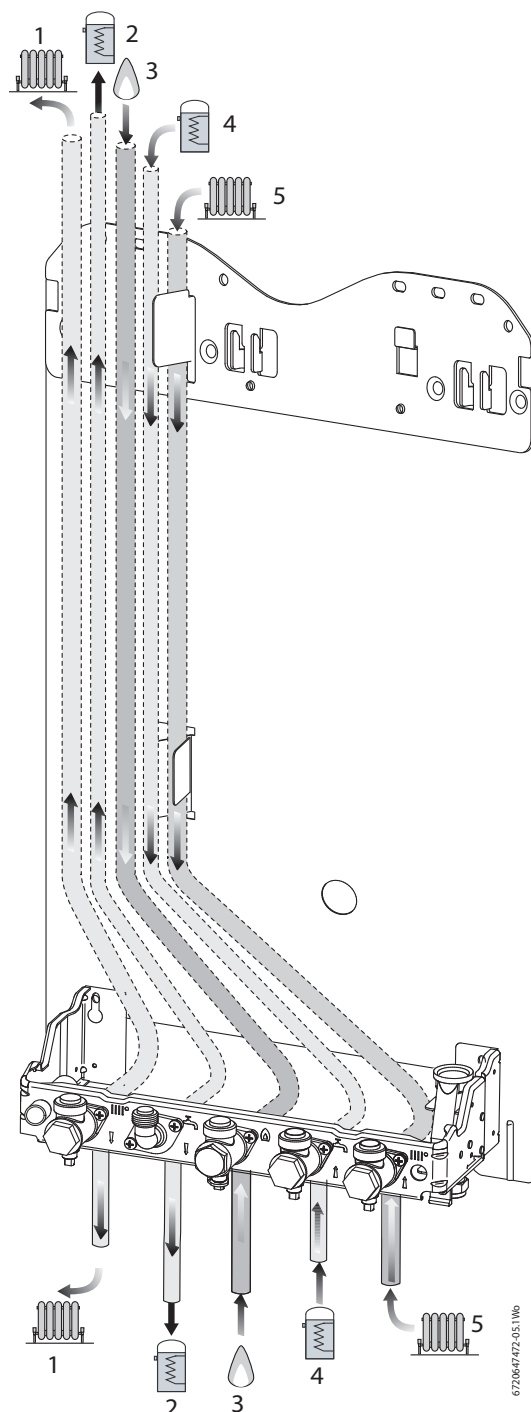

Fig. 17 With optional integral diverter valve
- ▶ **IF FITTING OPTIONAL INTEGRAL DIVERTER VALVE** install the pipe work as shown in figure 17 (also see additional information in the document supplied with the diverter valve kit).